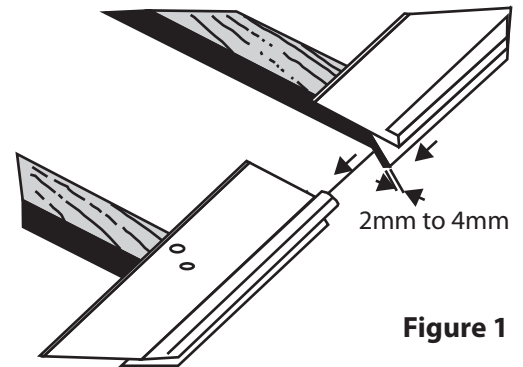

Figure 1
2. Fix first length of Dry Verge into position using suitable galvanised nails or outdoor screws as shown in Figure 1.